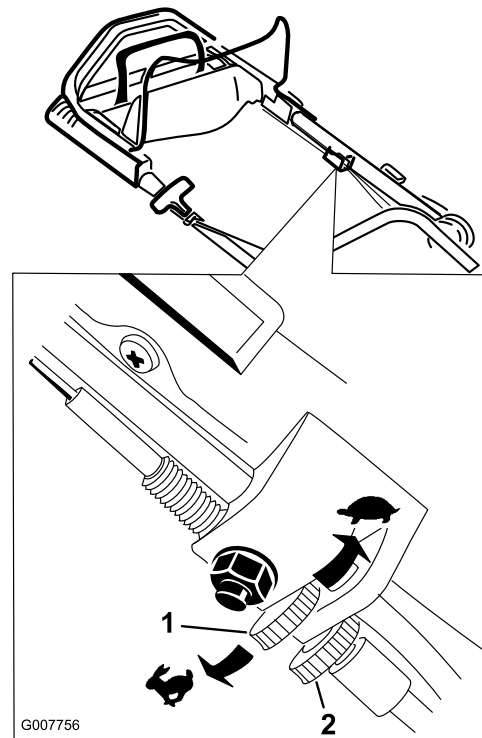

Figure 27
1. Loosen the locking nut by hand (Figure 27).